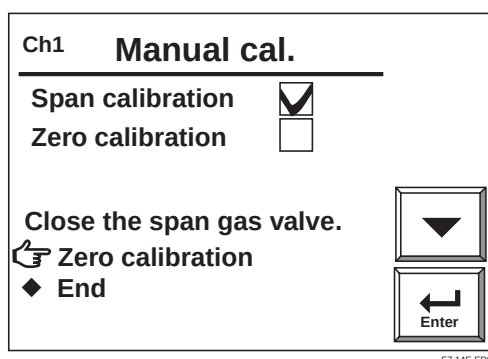

Fig. 7.14 Zero calibration start display
- 10) When the graph trace stabilizes, touch the [Enter] key. The display changes to like Fig. 7.14. The measured value is adjusted to read the same as the span gas concentration set value, and a check mark appears in the check box beside Span calibration. Close the span gas flow setting valve and tighten the lock nut used to prevent it from loosening during measurement.